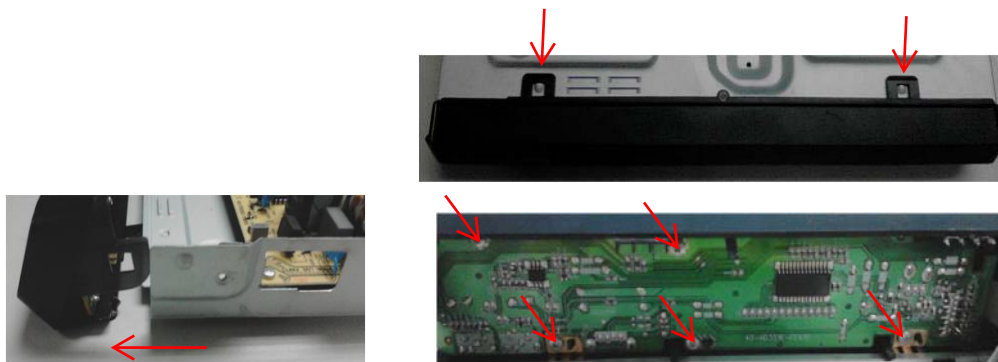

Figure 4
Step5: Dismantle the front panel and the front control board.Loosen the 2 buckles on both sides and 2 buckles under bottom cover,then remove 5 screws on the front control board(Figure 4)